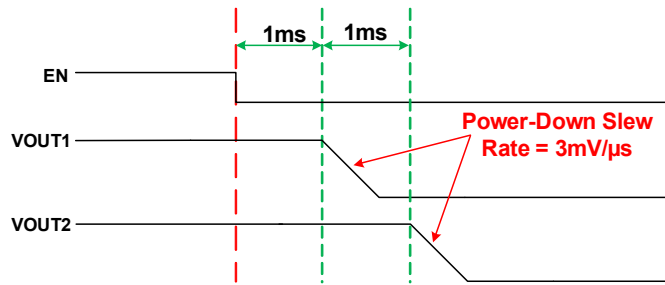

Figure 25. Auto Chip Power-Down Example
Note: The delay, BUCKx_SHUTDOWN_DLY[5:0] shown in Figure 25 as Dis_dlyx, is programmable from 0 to 63ms in 1ms steps.
Figure 25 provides an example of power-down configurability. The master chip enable pin (EN) transitions from logic 1 to 0. In the Figure 25 example, BUCK1_SHUTDOWN_DLY is set for 1ms and BUCK2_SHUTDOWN_DLY is set for 2ms.